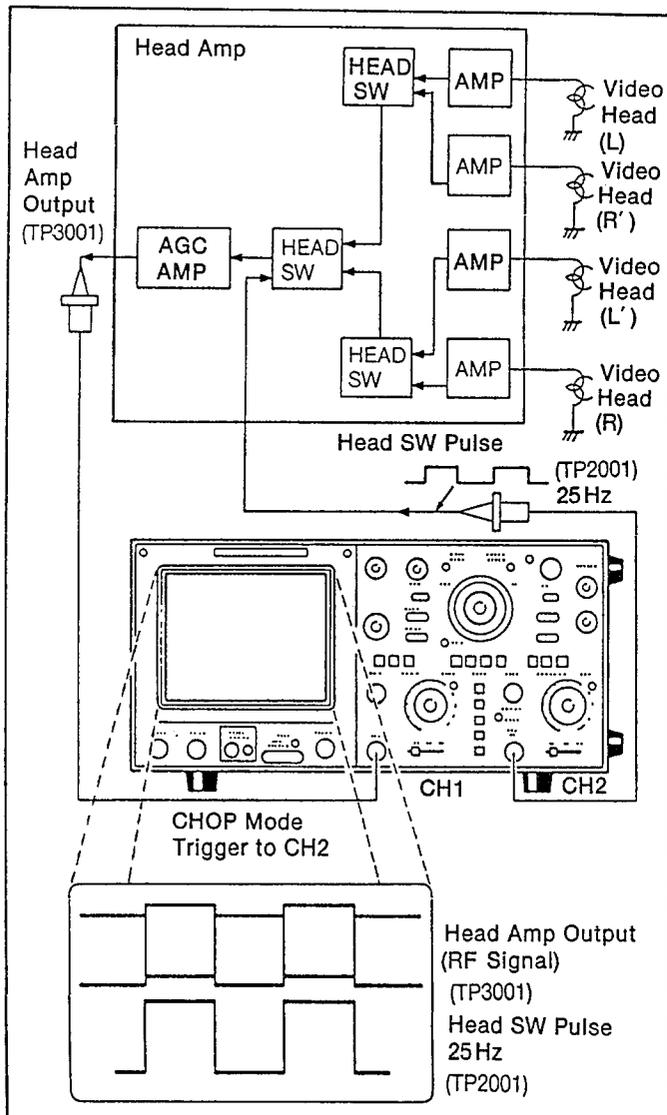

Fig. M20 Connection of Oscilloscope
1. Set the tracking control into the fix position. And connect the oscilloscope to the output of the Head Amp as shown in Fig. M20.
To get a stable waveform of the Head Amp output on the oscilloscope, use the head switching pulse as a triggering signal as shown in Fig. M20
2. Connect the oscilloscope to the output of Head Amp. (Refer to Fig. M20)